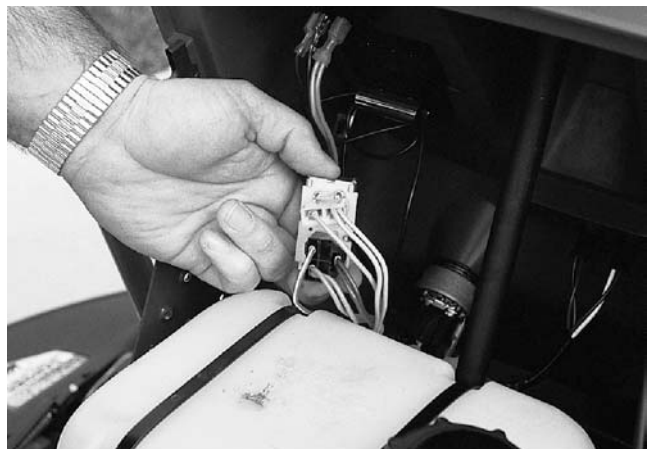

**Figure 3-37.**
2. Check the seat safety switch by disconnecting both yellow wires or the harness from the switch. See Figure 3-37.